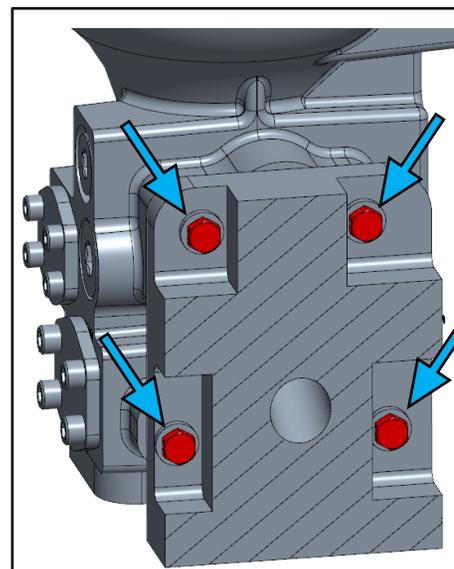

Figure 2-30. VariStroke Four Mounting Screws (VS-DX section view)
55. Unscrew the four screws connecting the VariStroke to the VS-DX skid manifold (use $3/4$ in open end wrench) (Figure 2-30).